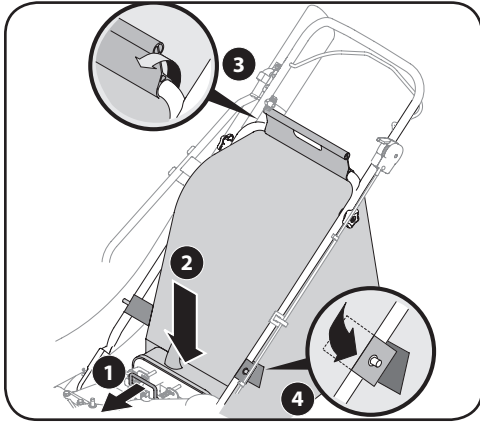

Figure 3-6
1. Grasp bag handle with one hand and slide locking rod on mounting bracket with other hand toward engine. Use the end of mounting bracket as leverage when sliding the locking rod. See Figure 3-6.
3. Place the lower straps on the bag over the top of lower handle, hooking them on the studs. See Figure 3-6.